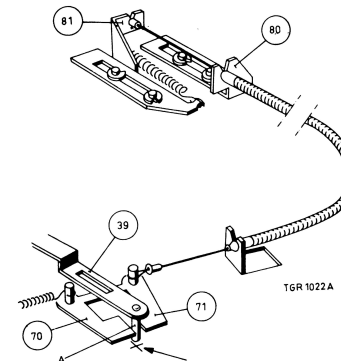
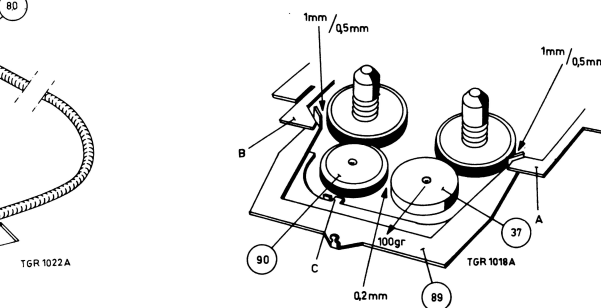

Fig. 7
Fig. 8
Adjusting the fast-winding roller, item 37, see Fig. 7
- Spindle A of bracket, item 39, should be positioned above the notch in the mounting plate. This can be adjusted by bending bracket, item 81.
- The pressure of the pulley should be > 100 g, measured as indicated in Fig. 8 with rewinding button depressed.
Check, see Fig. 8
Press idler wheel, item 90, against stop C. The clearance between the fast winding roller, item 37, and the idler wheel should now be approx. 0.2 mm. This is adjustable by bending bracket, item 39, see Fig. 7. When the winding or rewinding button is depressed brackets, item 70 and item 71, should be shifted equally for.
Adjusting the brake bracket, item 89, see Fig. 8
- Turn the cassette container completely upwards by detaching bracket, item 56.